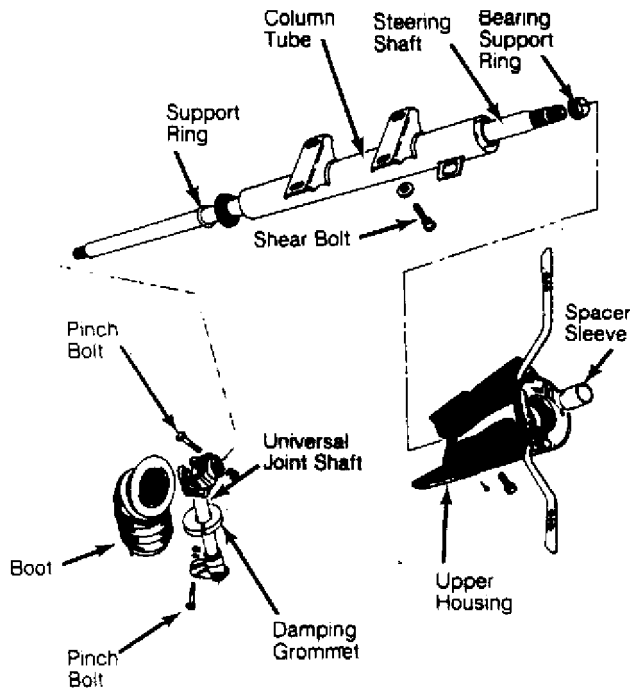

Fig. 2: Identifying Steering Column Components
NOTE: Refer to illustration for exploded view of steering column components. See Fig. 2.
To install, reverse removal procedure. Place wheels in straight-ahead position. Tighten pinch bolt. Install spacer. See Fig. 2. Install combination switch and steering wheel. Adjust brake pedal and clutch pedal height.
1) Remove pinch bolt that connects lower end of "U" joint shaft to steering gear pinion shaft. See Fig. 2. Separate manual gearshift linkage from steering box. Remove steering gear retaining nuts.